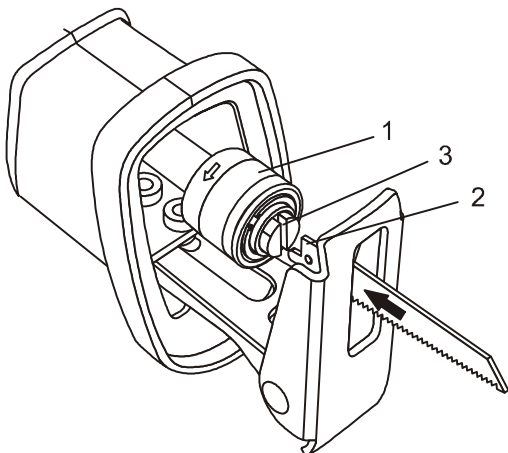

Fig. 1
1. To install a blade in the saw, rotate the blade locking sleeve (1) counter clockwise (Fig. 1).
2. Insert the appropriate blade (2) into the blade slot (3) as far as it will go.